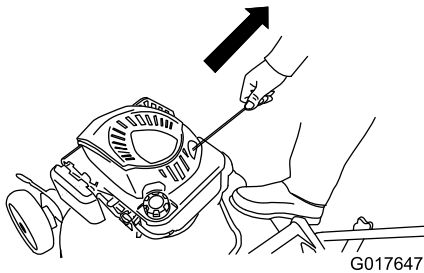

Figure 15
- Pull the recoil starter from the engine (Figure 15).